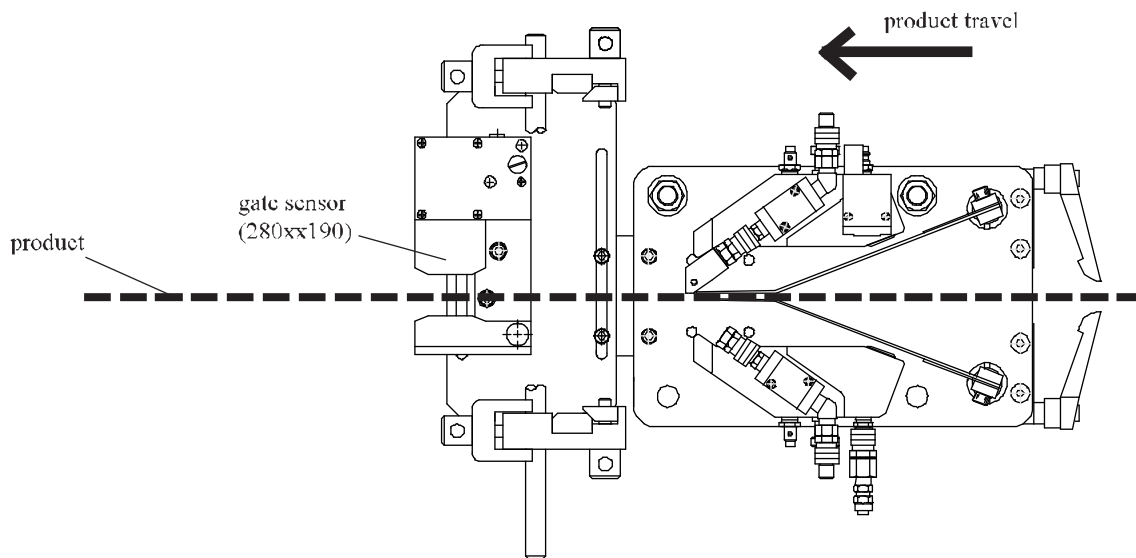

Figure 5-25. Mounting Position for 4th-Panel Sensor
- 4th-panel version (280xx190) (Figure 5-25)